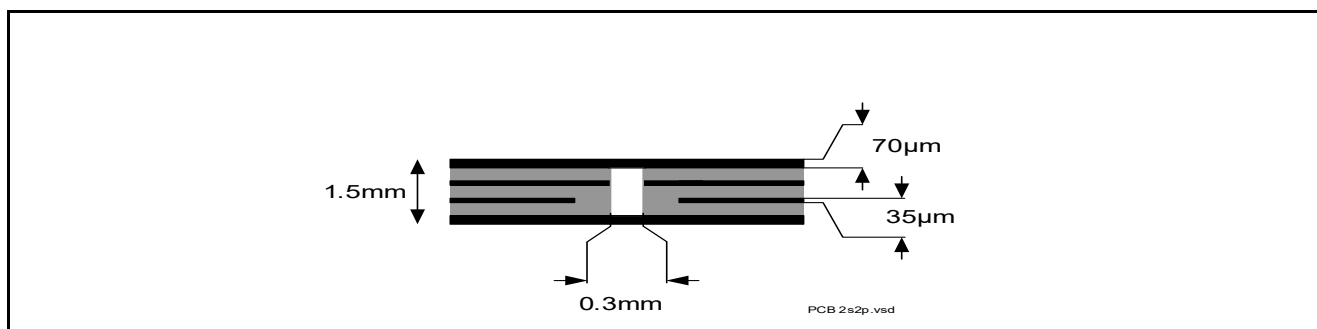

Figure 4 2s2p PCB Cross Section
2) Specified R_{thJA} value is according to JEDEC JESD51-2,-5,-7 at natural convection on FR4 2s2p board with 1 W power dissipation equally dissipated for both channel at $T_A = 105^{\circ}\text{C}$; The product (chip + package) was simulated on a 76.4 x 114.3 x 1.5 mm board with 2 inner copper layers (2 x 70 μm Cu, 2 x 35 μm Cu). Where applicable, a thermal via array under the exposed pad contacts the first inner copper layer. Please refer to Figure 4.